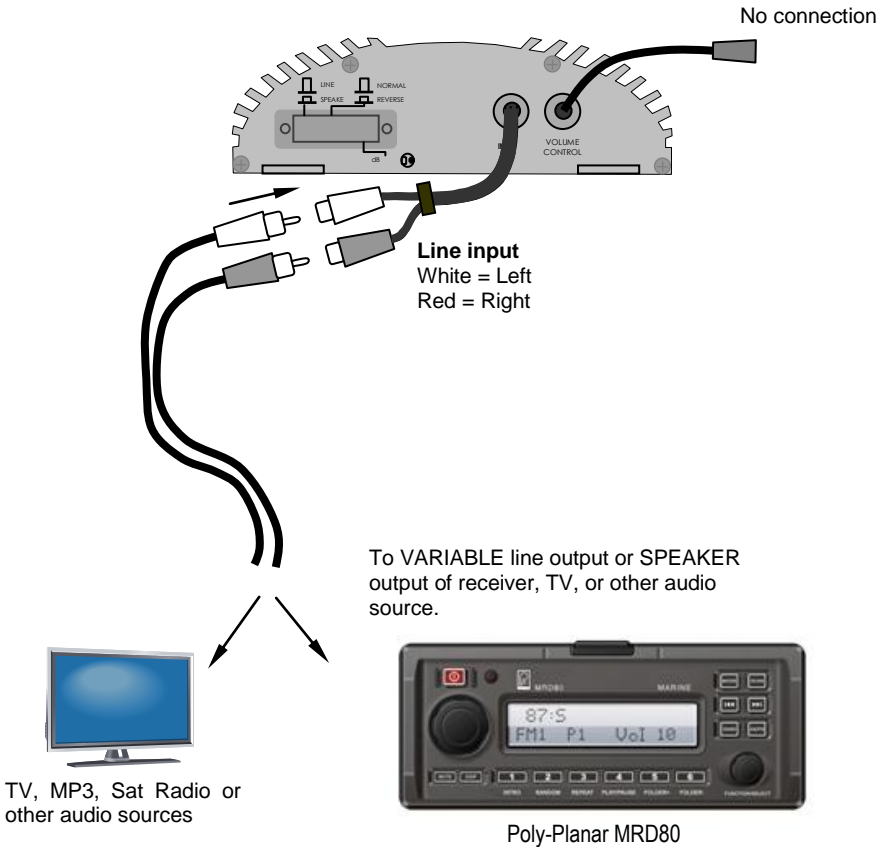
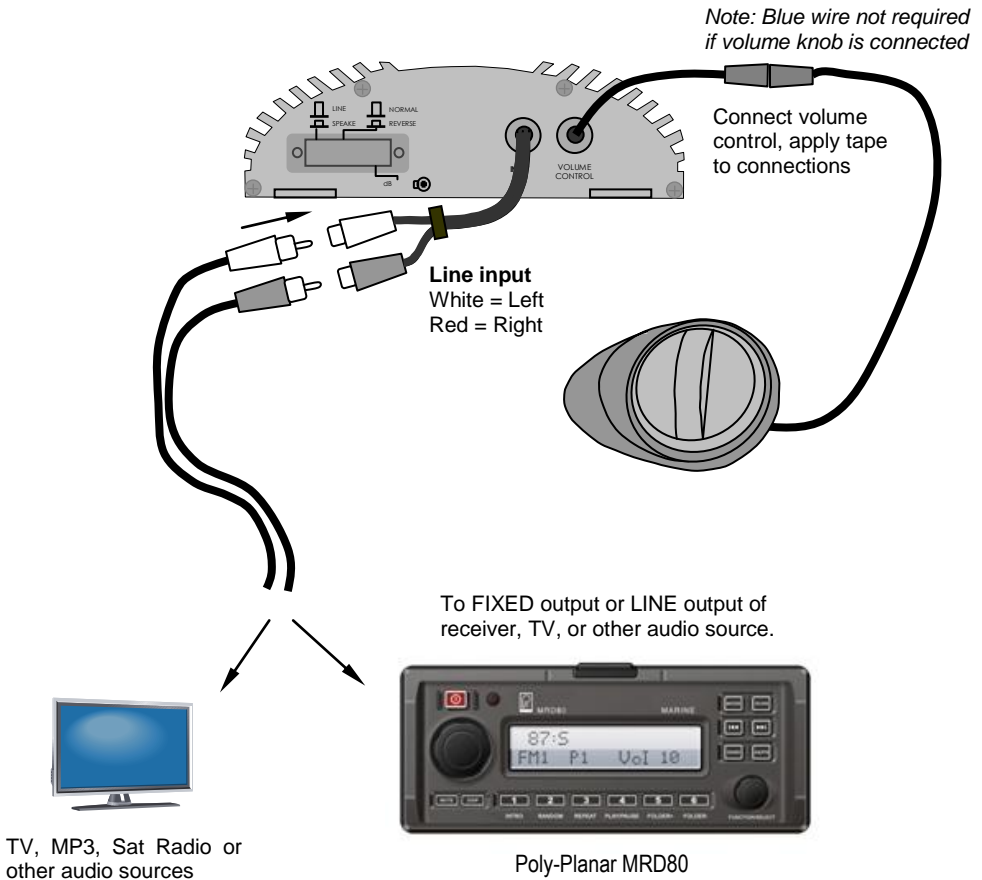

Figure 4 - Input connections without Volume control
Figure 5 - Input connections with Volume control
- 9) The GAIN control adjusts the overall level of the amplifier. When using the amplifier without volume control (as in Figure 4) the level should be set to achieve a balance with other loudspeakers in the system. As a rule, keep the gain setting as low as possible while still insuring that the system will reach full output power. When using the system with external volume control (as in Figure 5), set the external Volume Control to FULL (clockwise) and adjust the gain on the amplifier until full output power is reached. Full output power level can be determined by turning the gain control clockwise until the apparent loudness does not appear to increase any more. Leave the control at the setting where this begins to become apparent.